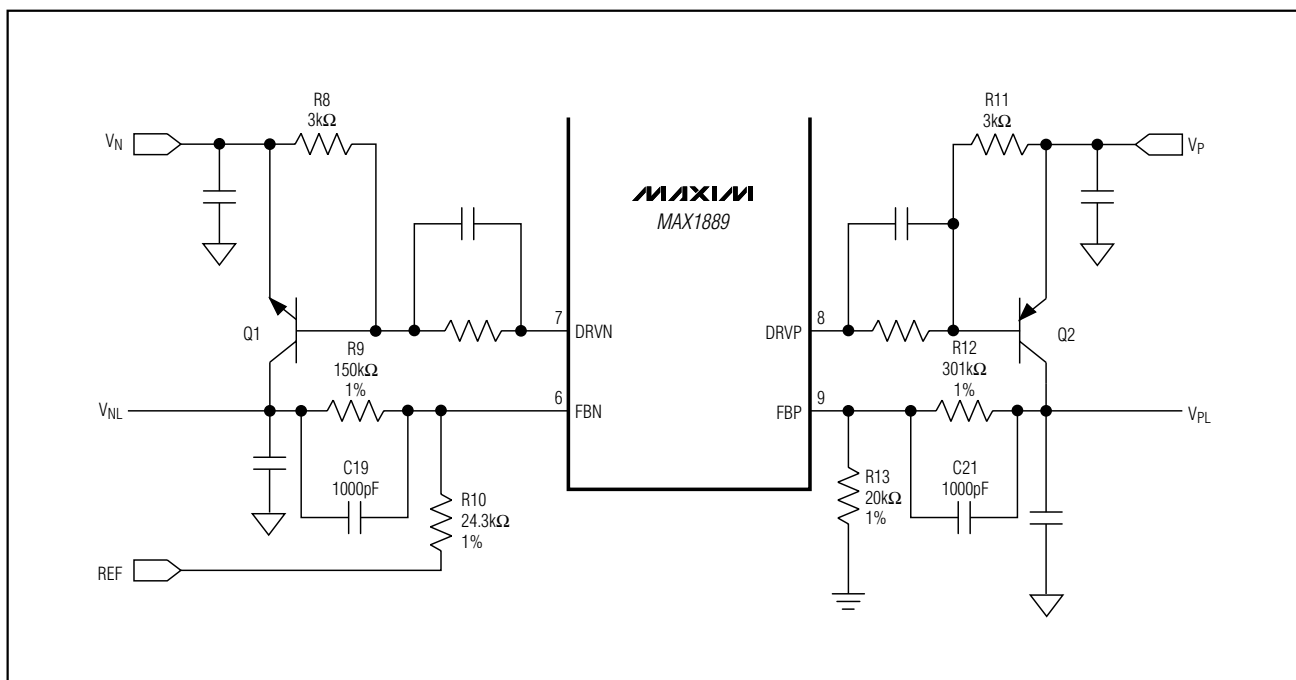

Figure 8. LDO Compensation
- 3) A third pole is set by the linear regulator's feedback resistance and the capacitance (including stray capacitance) between  $FB_-$  and GND (for the positive LDO) and  $FBN$  and GND (for the negative LDO) (Figure 8):
A capacitor connected between the output and the feedback node improves the transient response, reduces the noise coupled into the feedback loop, and maintains the correct regulation point (Figure 8).